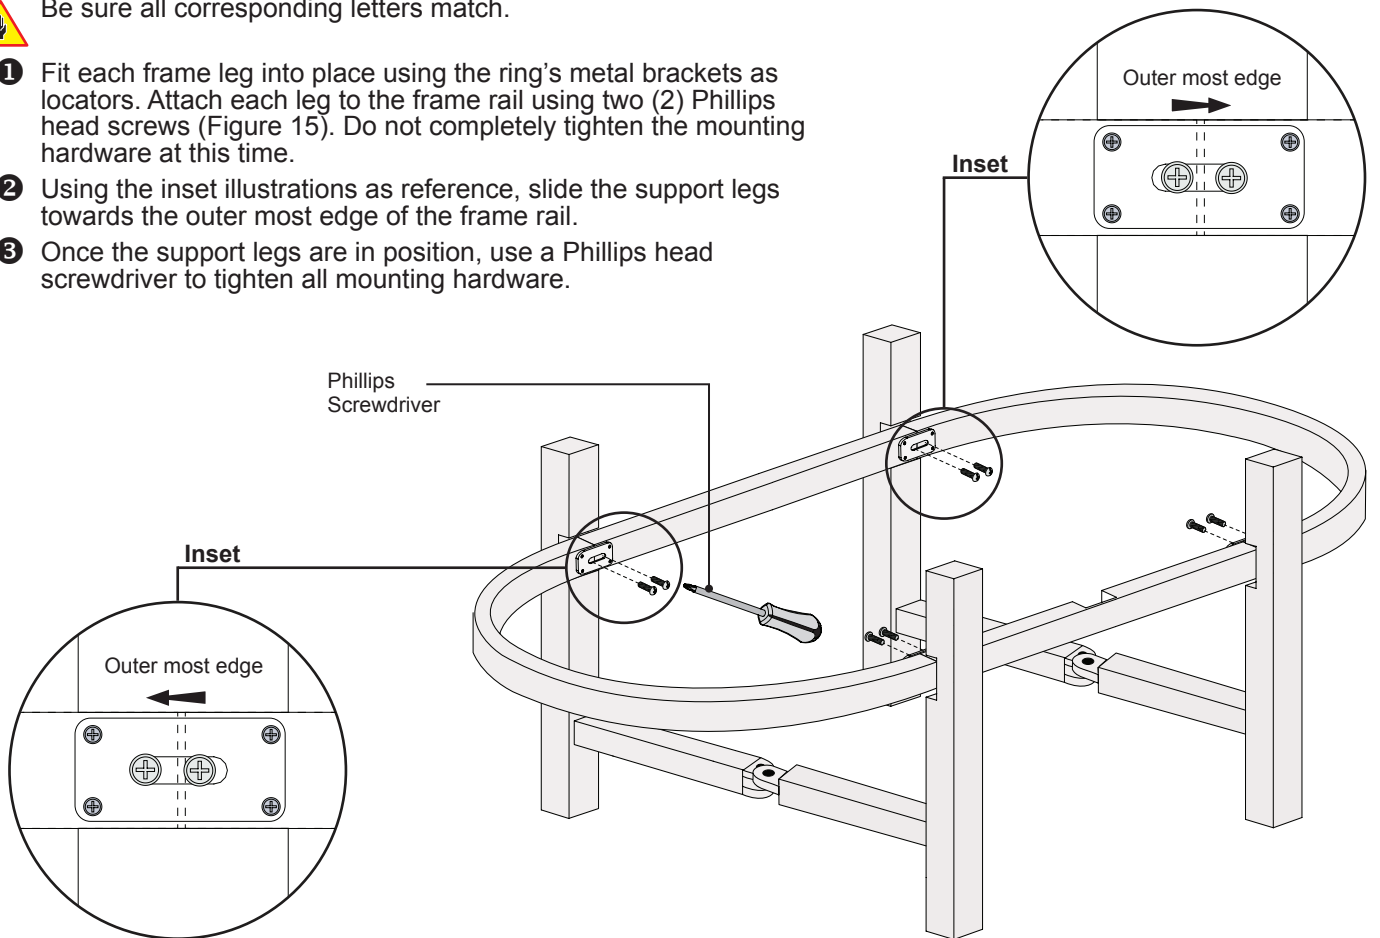

**Figure 14. Wood Frame Assembly**
**4** Once all four (4) metal brackets have been attached, use a Phillips head screwdriver to tighten all of the mounting hardware (Figure 14).